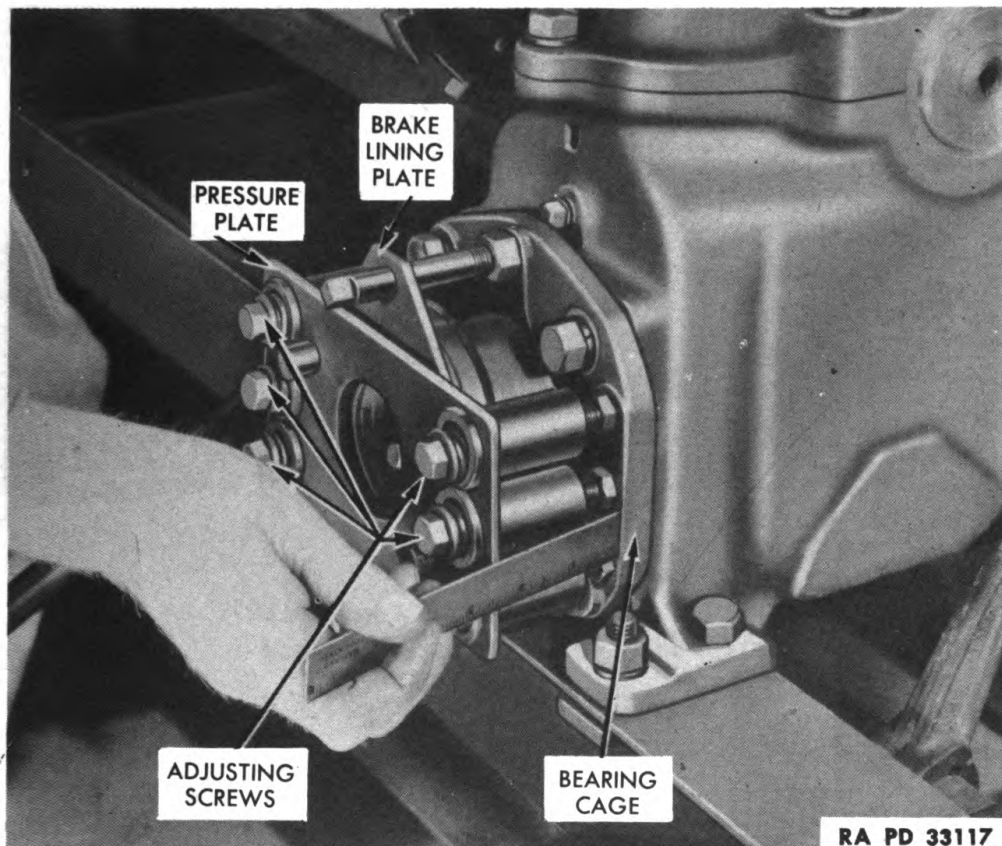
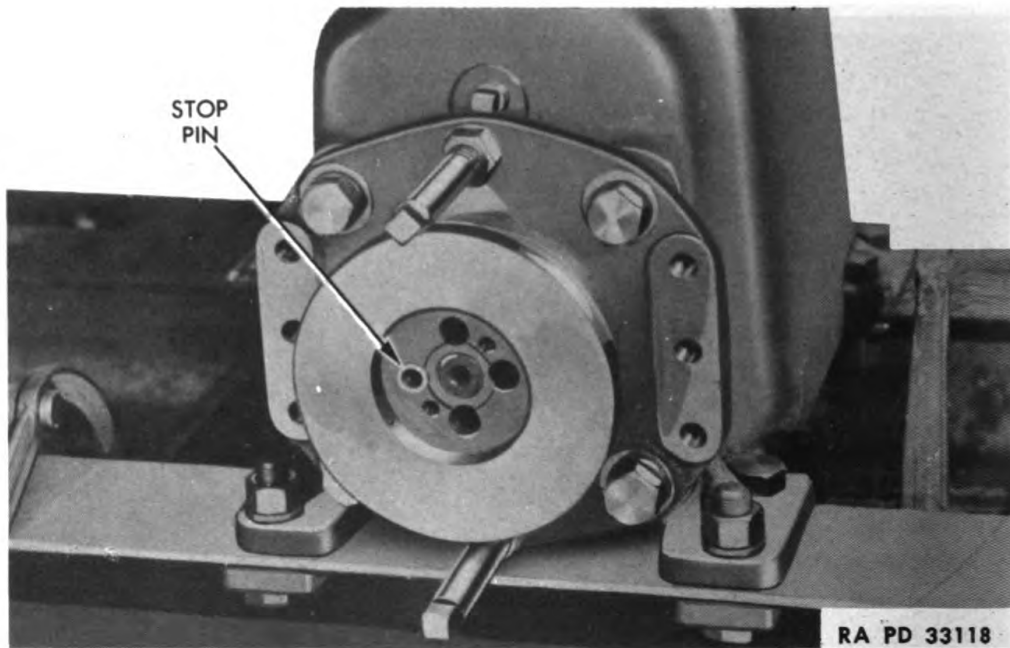

Figure 123—Adjusting Winch Brake Pressure Plate
Figure 124—Worm Brake Nut Stop Pin
(1) **WORM BRAKE ADJUSTMENT** (fig. 123). The winch worm brake is located at the front end of the worm shaft. Adjustment is accomplished by loosening or tightening the six pressure plate adjusting screws. The brake is applied by end movement of the worm brake nut. Force the worm and worm brake nut forward (toward the pressure and brake lining plates) as far as it will go. The worm has a minimum of 3/16-inch and a maximum of 1/4-inch end movement. Screw worm brake nut toward winch until pin hits stop (fig. 124). Adjust clearance between pressure plate and brake lining plate to provide uniform clearance of from 1/32 to 1/16 inch. This is accomplished by loosening the six adjusting bolt lock nuts, and turning the adjusting bolts. When the adjustment is completed, tighten the lock nuts.